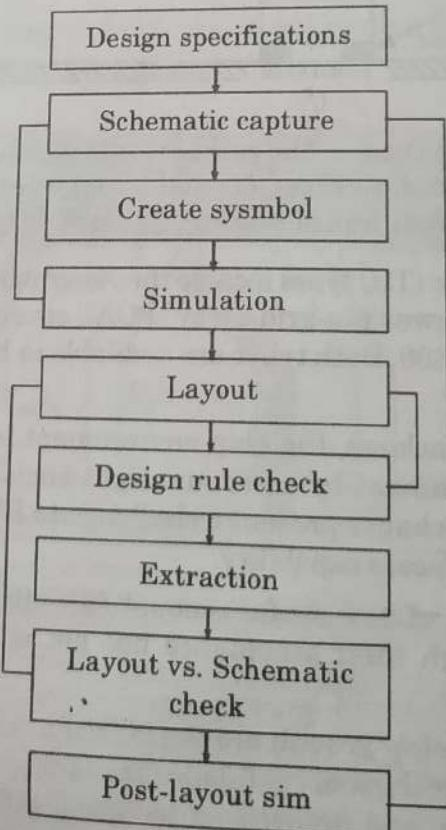

Fig. 5.14.1.
1. The VLSI IC circuits design flow is shown in the Fig. 5.14.1. The various levels of design are numbered and the blocks show processes in the design flow.